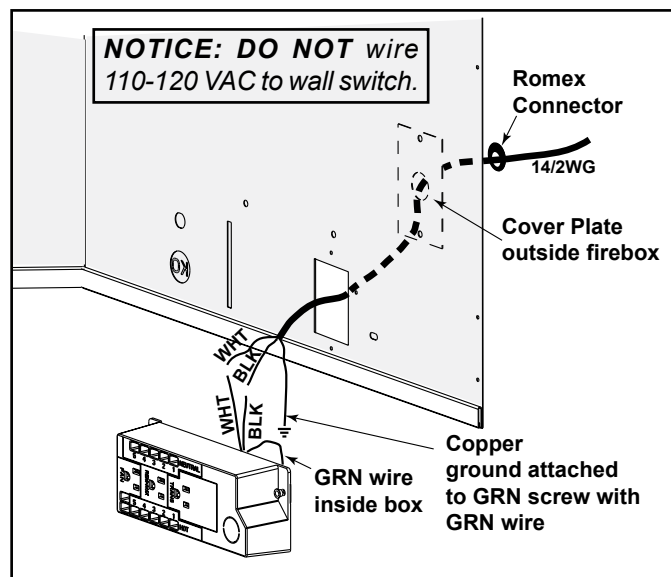

Figure 9.1 Junction Box Detail - generic Fireplace Shown
- Remove the screw attaching the junction box/receptacle to the outer shell, rotate the junction box inward to disengage it from the outer shell. See Figure 9.1.
- Pull the electrical wires from outside the appliance through the opening into the valve compartment and secure wires with a Romex connector. See Figure 9.1.